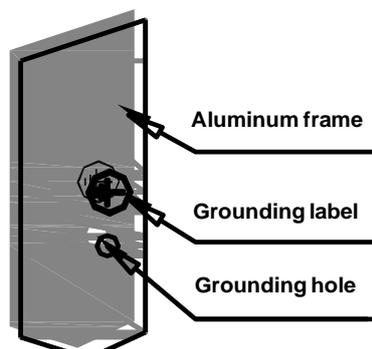
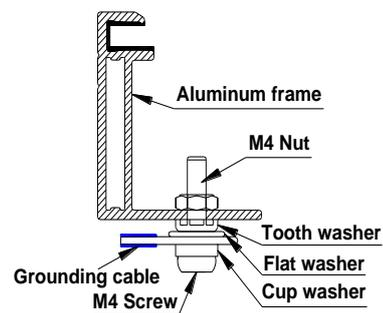

FIG 4 Grounding hole and ground label
FIG 5 Grounding method
**7.5.1** GM Solar modules use anti-corrosion and oxidation resistance aluminum frame as rigid supporting. In order to protect the module from lightning strike, electrostatic damage, and personnel safety, all module frames and mounting racks must be properly grounded, as shown in Figure 4: grounding hole and grounding label. Use the recommended connector terminal, or an equivalent, to connect the cable to the frame, and assure good electrical contact as shown in Figure 5: Grounding method.